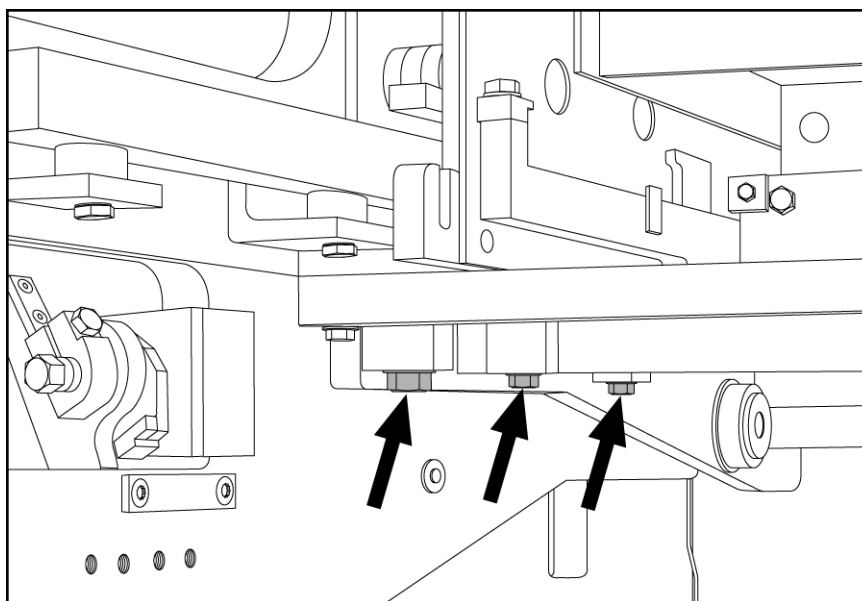

Figure 5.26 APRON PLATE ADJUSTMENT (FORWARD TO BACK)
- 5.6.3 If necessary, adjust apron plate. Loosen bolts and move forward or back (see figure 5.26).